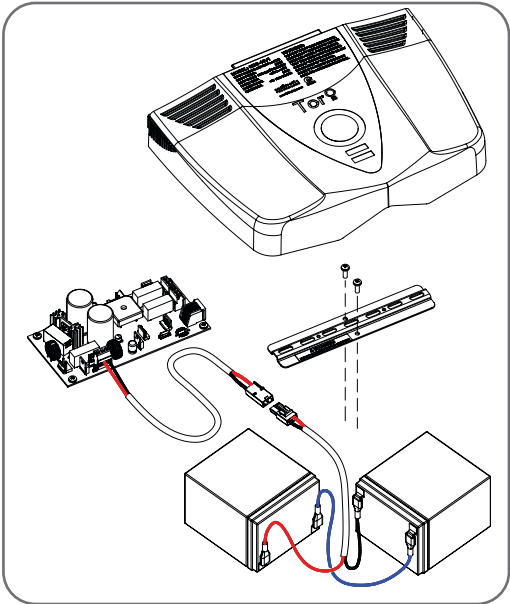

Fig 16.1
- f. Remove the batteries and replace with the same type **(Fig. 16.1)**.